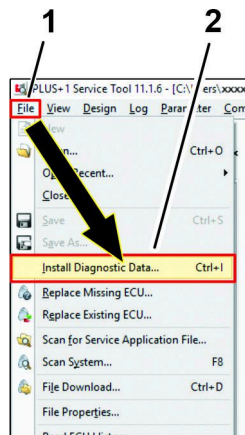

Figure 41
2. Click the FILE icon, and in the drop-down list, click the INSTALL DIAGNOSTIC DATA . . . icon (Figure 41).